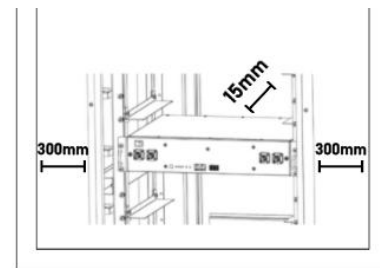

Figure3-4
3. Clearances required around battery, Shown as Figure3-4